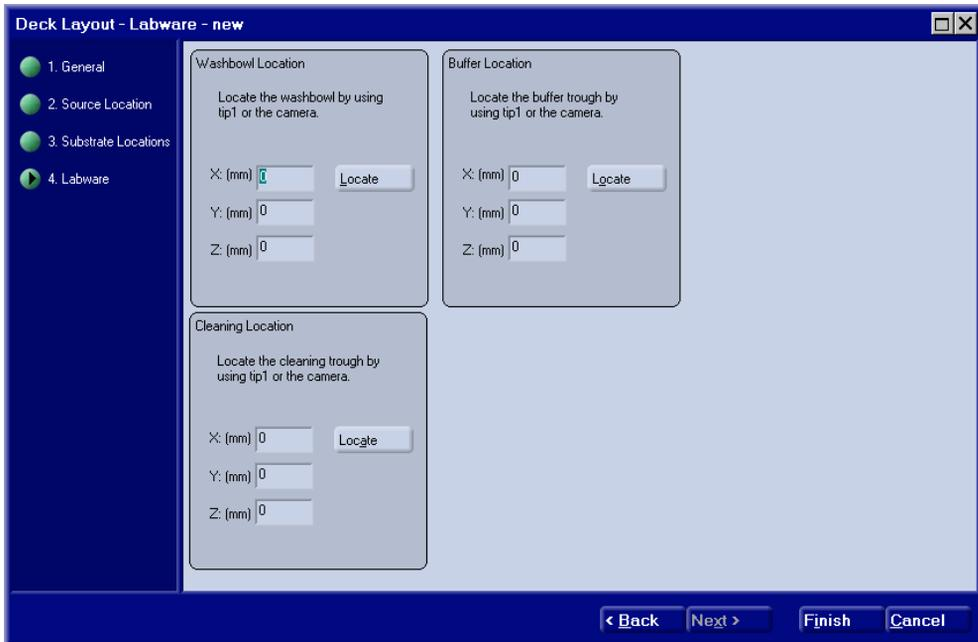

Figure 3-29. Deck Layout Definition - Labware.
- Click the **Next >** button to advance to the Labware page of the Deck Layout Definition (Figure 3-29).